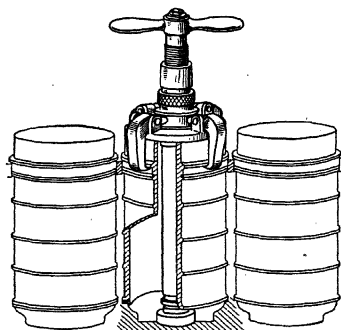

Fig. 26.—Extracting a cylinder liner.
4. Immerse the block in water at 167°F. and, using the extractor (Fig. 26) as illustrated, withdraw all liners as quickly as possible.